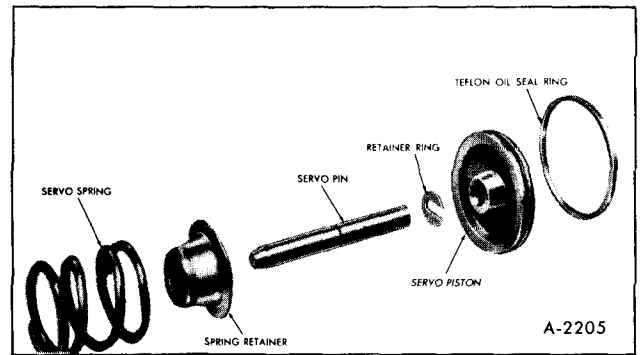

Figure 88—Front Servo Components
**NOTE:** See Figure 88. Do not remove the teflon